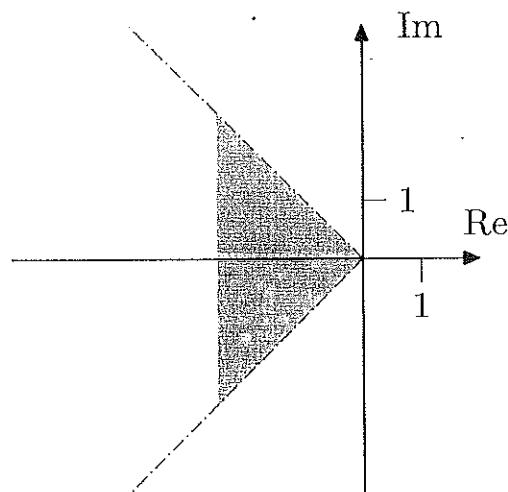

Figure 3.1c
- d) Assume that we use proportional control, that is, $F(s) = K$. How large gain, K , can we select if we want all poles of the closed loop system to be in the area shown in Figure 3.1c?